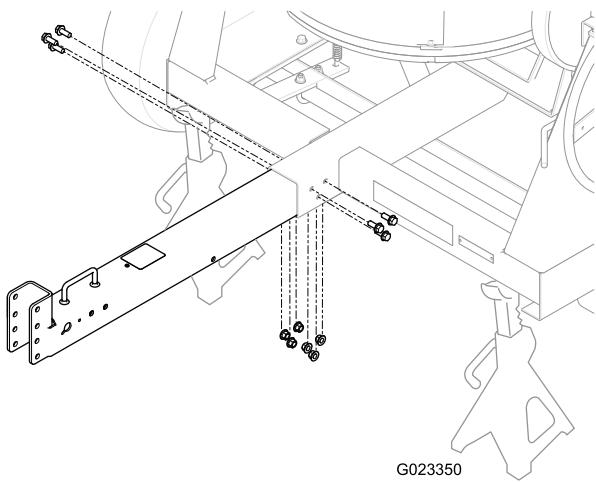

Figure 3
4. Install the tow pole into the opening at the front of the machine, and secure it with 6 short bolts and 6 locknuts torqued to 102 N·m (75 ft-lb); refer to Figure 3.